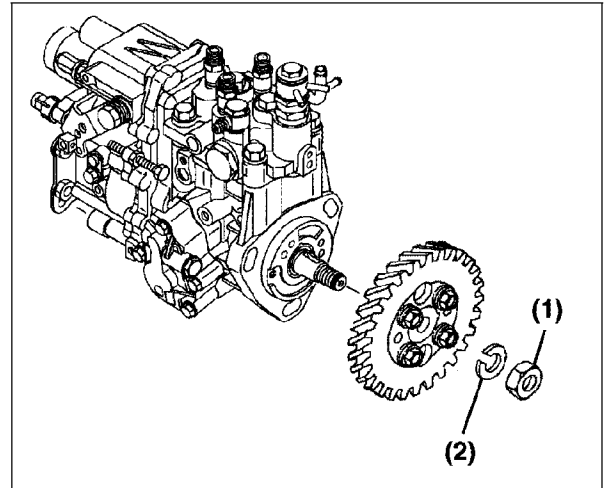

Figure 15
- (2) If installing the fuel injection pump on an engine with the front gear case cover removed, the fuel injection pump drive gear can be aligned with the idler gear by aligning the stamped marks (A, B, C) on the fuel injection pump drive gear, idler gear, and crankshaft drive gear. Ensure all three timing marks (Figure 15, (A, B, C)) are aligned.
- (4) Align the key on the fuel injection pump shaft with the keyway in the fuel injection pump drive gear hub. Reinstall the fuel injection pump into the fuel injection pump drive gear and gear housing. Reinstall the pump retaining nuts finger tight.
- (5) Reinstall the fuel injection pump drive gear lock washer (Figure 15, (2)) and nut (Figure 15, (1)). Do not lubricate the threads of the nuts or shaft. Hold the crankshaft pulley bolt with a socket wrench and tighten the drive gear nut to the specified torque.